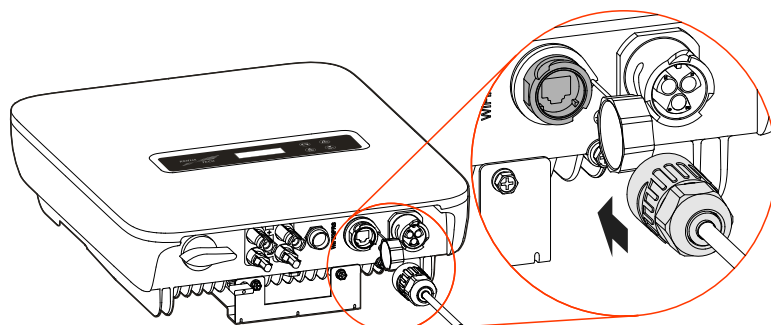

Figure3-31 Insert the communication port
- Step 3 Screw the waterproof cover on the COM. port, insert the RJ45 port to the COM. port (as shown in Figure3-31) and screw it.